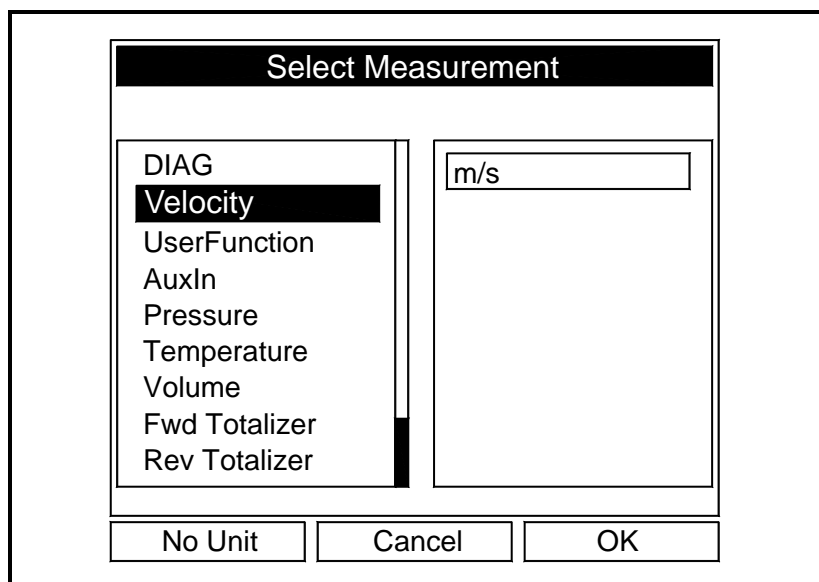

Figure 3-17: Data Source Selection Window
2. The next prompt asks you to select the analog output type from a list of choices, as shown in Figure 3-17 below.
2. Press [ENTER] to open the Data Source window. The Select Measurement window (Figure 3-17 on page 3-19) appears.
4. Press [F3] (OK) to confirm your selection.